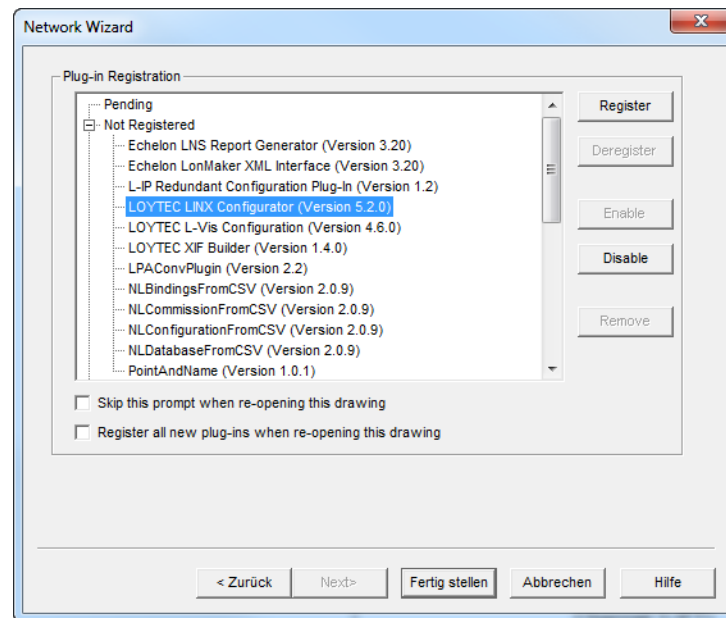

Figure 122: Select the Plug-in to be registered.
2. Click **Next** until the plug-in registration tab appears in the Network Wizard. Select the **LOYTEC LINX Configurator (Version X.Y)** from the list of **Not Registered** (see Figure 122).